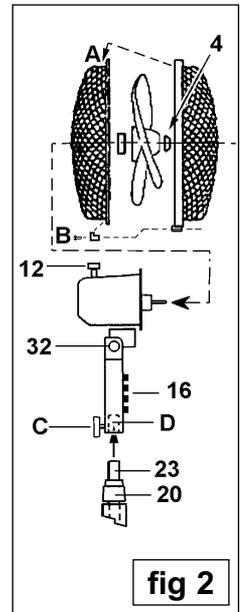

fig 2
Please note that the Item Nos. used in Fig.1 and Fig.2 are taken from the parts diagram overleaf.
- 2.2. **Fitting the fan.** Slide the fan onto the motor shaft until it comes to rest against the pin which is pushed through the shaft. Rotate the fan slightly until the pin comes to rest in the shallow groove in the back of the fan. Now take the large plastic circular lock nut (fig2- item4) and thread it onto the end of the motor shaft by turning it **anticlockwise**. Hold one of the fan blades with one hand and tighten the nut down onto the fan to hold it in place.
- 2.3 **Fitting the front fan guard to the rear fan guard.** The front guard has a plastic rim attached to it which enables it to hook over the top of the rear guard (fig 2-A); snap together at the sides, and screw fix at the bottom (fig 2-B). On the inside of the front guard at the top you will see 2 small square plastic lugs. Hook these lugs over the rim of the rear guard and push the front guard on as far as it will go at the bottom.
- 2.5 Now take the small plastic fixing lug (fig2-B) and press it into place over the screw fixing hole at the bottom of the front guard. Place the securing screw through the plastic lug and tighten it up so that the lug fits snugly against the back of guard rim.
- 2.9 **Fitting the fan unit to the stand.** Check that the chrome tube on the stand is extended (fig2-23) and that the height adjustment knob has been tightened (fig2-20). On the underside of the fan body (below the button area) there is a hole (fig2-D) into which the chrome tube will fit. Hold the whole fan unit in an upright position and drop it onto the top of the chrome tube. Tighten the retaining knob (fig2-C) on the back of the main body. The fan is now ready to use.
- 3.6 To swivel the fan unit from side to side loosen the swivel knob (fig2-C) which is at the back of the main body behind and below the buttons. Swivel the entire fan unit to point in the direction desired and retighten the knob.